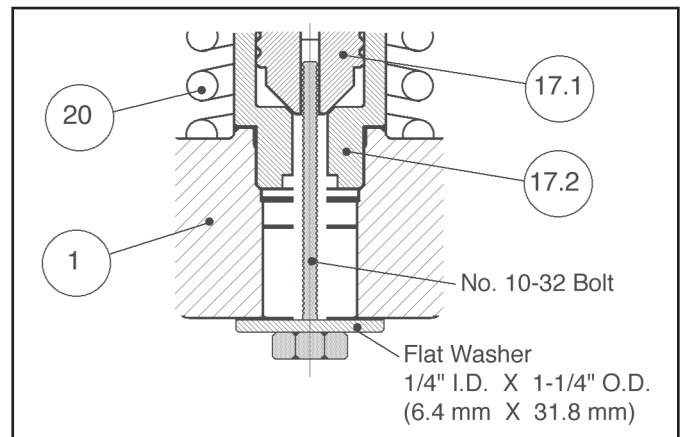

Figure 1: Special tool for collapsing piston spring (20).
10. Basic Regulator- (See Figure 1): Regulator may be rotated around the pipe axis 360°. Recommended positions are with spring chamber vertical upwards, or horizontal. Orient such that the spring chamber vent hole does not collect rainwater or debris.
1. For regulators with NPT end connections only, fabricate the special tool described in Figure 1. Rotate the No. 10-32 bolt CW to collapse the piston spring (20). This will hold the renewal unit (17) in place during disassembly. For all other end connection options, proceed with Step 2.
2. Securely install the body (1) in a vise with the spring chamber (2) directed upwards.
3. Loosen the adjusting screw lock nut (5) and rotate the adjusting screw (17) CCW until removed from the spring chamber (2).
4. Draw or embed a match mark on the body (1) and spring chamber (2) flanges.
5. If the special tool in Figure 1 is not being used, the piston spring (20) is always under tension. Therefore remove all flange bolts (13) except two located on opposite sides. Turn remaining two flange bolts (13) CCW using even increments. The piston spring (20) will force the body (1) and spring chamber (2) to separate.
6. Remove spring chamber (2), spring buttons (4), range spring (6), ball bearing (9), pressure plate (8), diaphragms (10), and diaphragm gasket (11).
7. Inspect pressure plate (8) for deformation due to over-pressurization. If deformed, replace.
9. If available, collapse the piston spring (20) using the special tool from Figure 1. If no special tool is available, proceed to Step 10.
10. Place new diaphragm gasket (11) and diaphragms (10) onto body (1).
11. Place multi-purpose, high temperature grease into depression of the pressure plate (8) and spring buttons (4) where the ball bearing (9) and adjusting screw (3) bears. In the center of the diaphragms (10), place the pressure plate (8), ball bearing (9), spring buttons (4), and range spring (6). Ensure spring buttons (4) are laying flat.
12. Aligning the matchmarks, place spring chamber (2) over the above stacked parts. Install flange bolts (13). Mechanically tighten flange bolts (13) in a cross pattern that allows the spring chamber (2) to be pulled down evenly. Tighten all flange bolts (13) to the following torque value: **All Sizes: 45–50 Ft-lbs (61–68 Nm).**